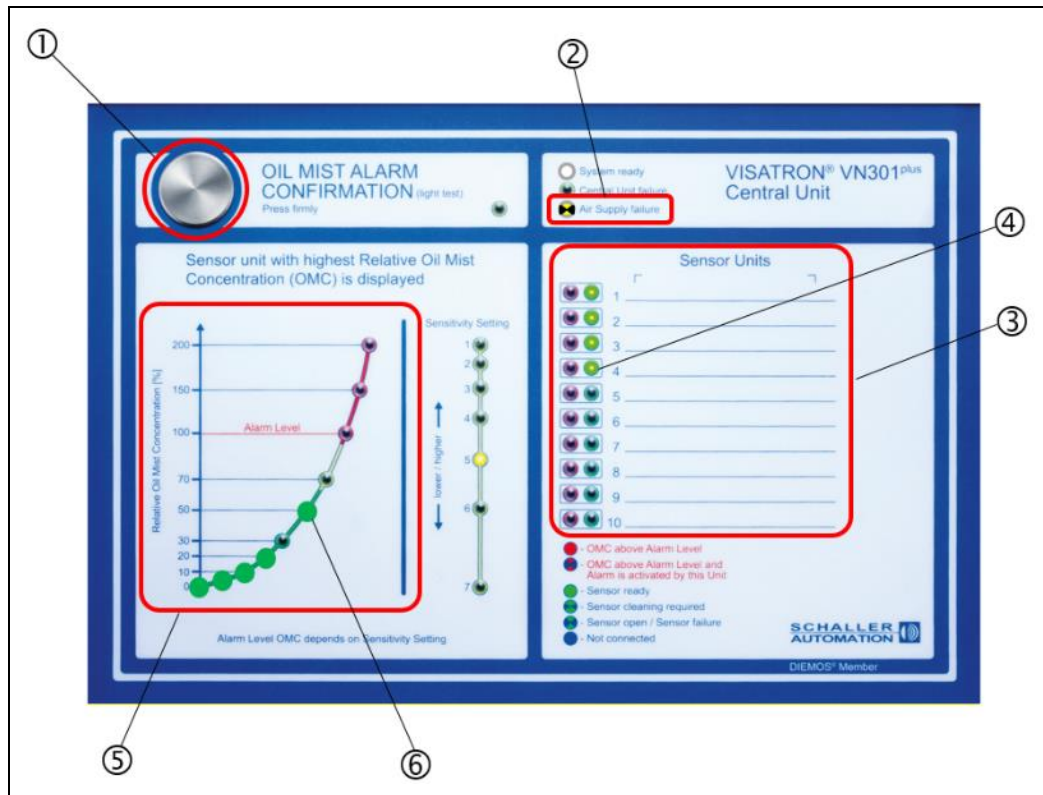

Fig.: 74 : VN301plus central unit: Setting the supply pressure
3. Press the oil mist alarm confirmation button again. [①]
- ▶ The "Supply pressure" display mode is indicated by the LED for "Air Supply failure" [②] flashing.
- ▶ The current supply pressure level is now displayed on the OMC graph on the left-hand side. [⑤]
- ▶ The nominal pressure of 2.5 bar is indicated by the LED light for 50% OMC [⑥] turning on continuously.
- ▶ If the supply pressure of 2.5 bar is not achieved, the 50% OMC [⑥] LED flashes, as in the figure below. In this example, the supply pressure is only 2 bar and therefore has to be adjusted.
4. Set the supply pressure to 2.5 bar using the pressure regulator unit [①], as shown in Figure 74:
- ▶ Unlock the blue adjusting cap [②] on the pressure regulator, i.e. push it upwards.
- ▶ Turning the blue adjusting cap [②] anticlockwise reduces the pressure, turning it clockwise increases the pressure.
- ▶ Push the blue adjusting cap [②] on the pressure regulator down again to lock it.